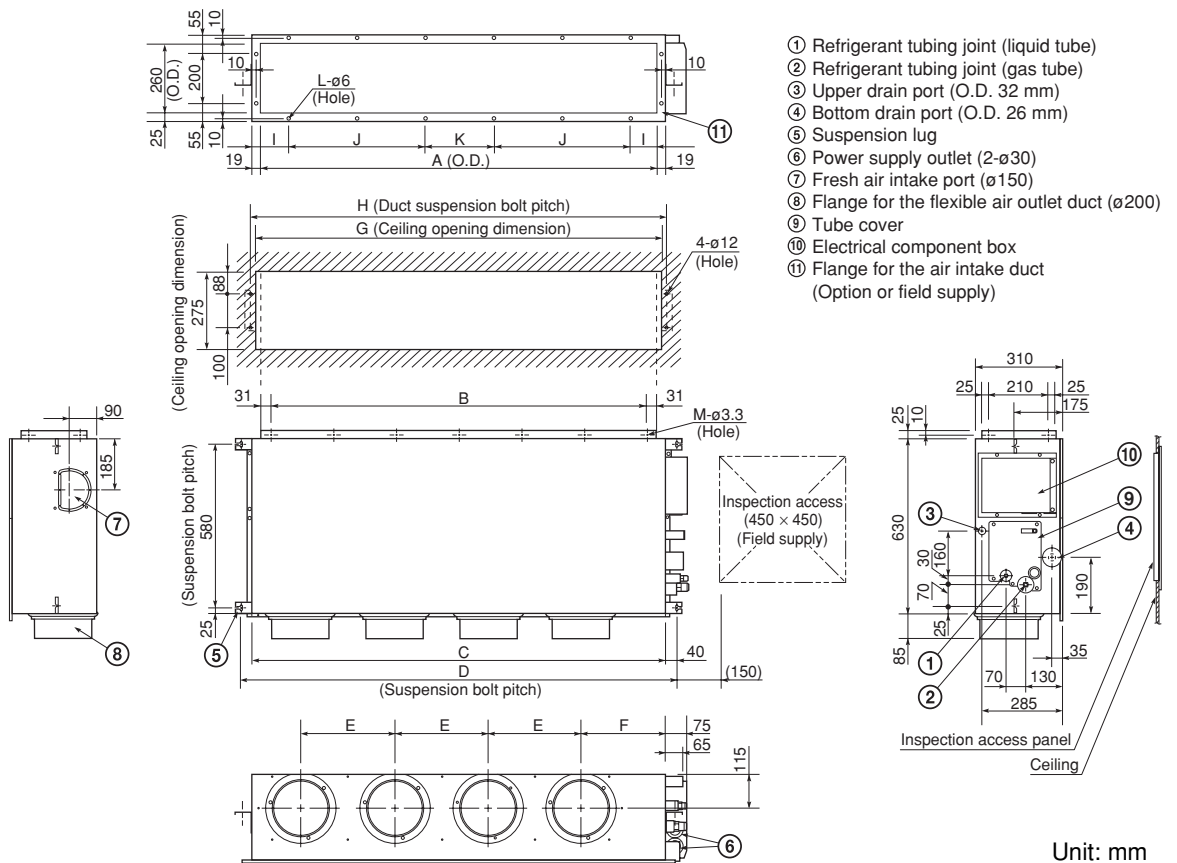

Fig. 3-83
- Fig. 3-83 and Table 3-6 show the detailed dimensions of the indoor unit.